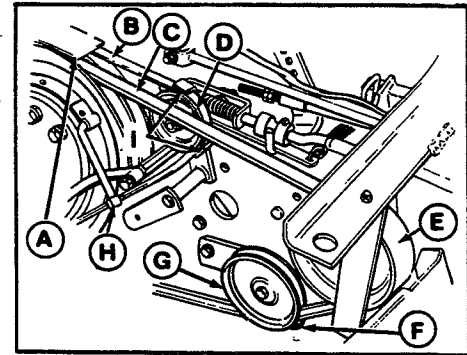

Figure 16. Drive Belt Replacement - Semi-Automatic
2. Remove the two taptite screws to remove the transmission pulley belt retainer (A, figure 16).